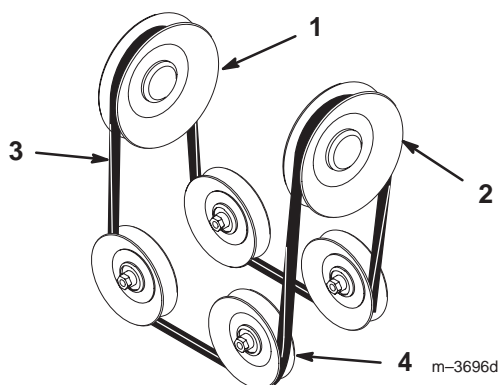

Figure 26
6. Remove the snowthrower belt from around the engine PTO pulley (Fig. 26).